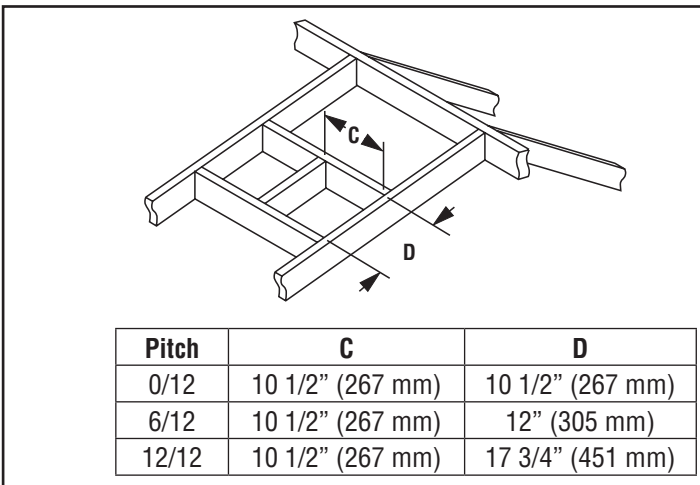

Figure 19 - Roof Framing Dimensions
9. **Frame the roof opening**—Identify the location for the vent at the roof. Cut and/or frame opening (Figure 19).